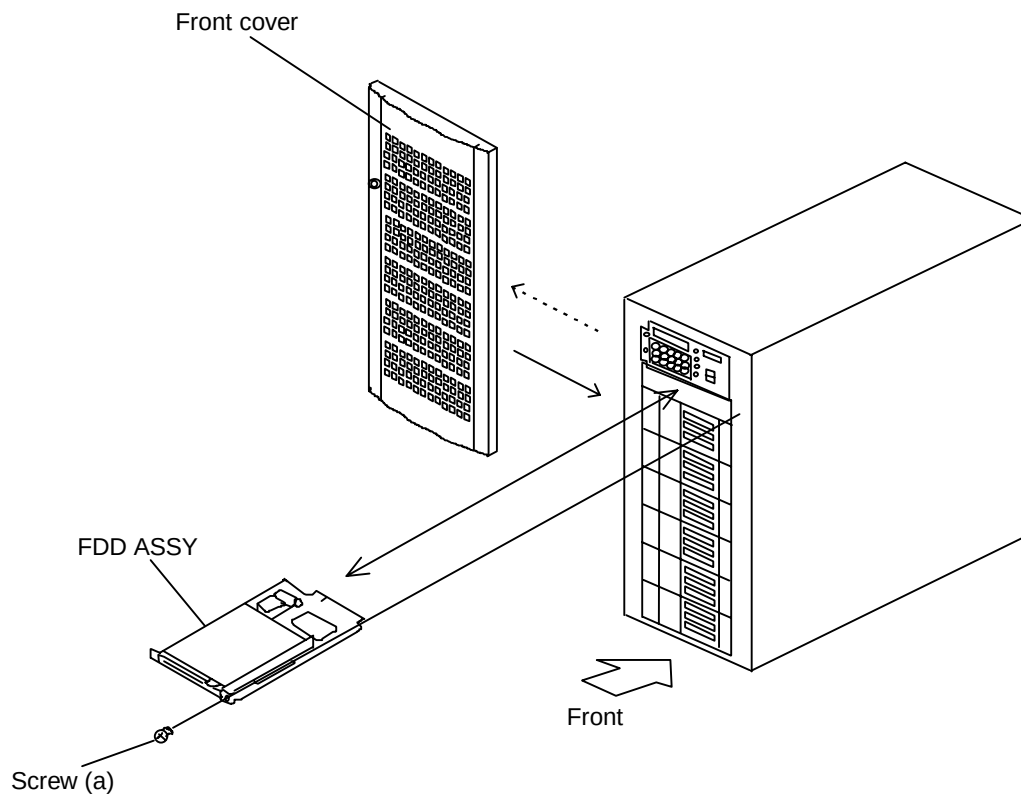

Figure 5.1 Replacing FDD ASSY
5. Replacing FDD ASSY (See Figure 5.1.)